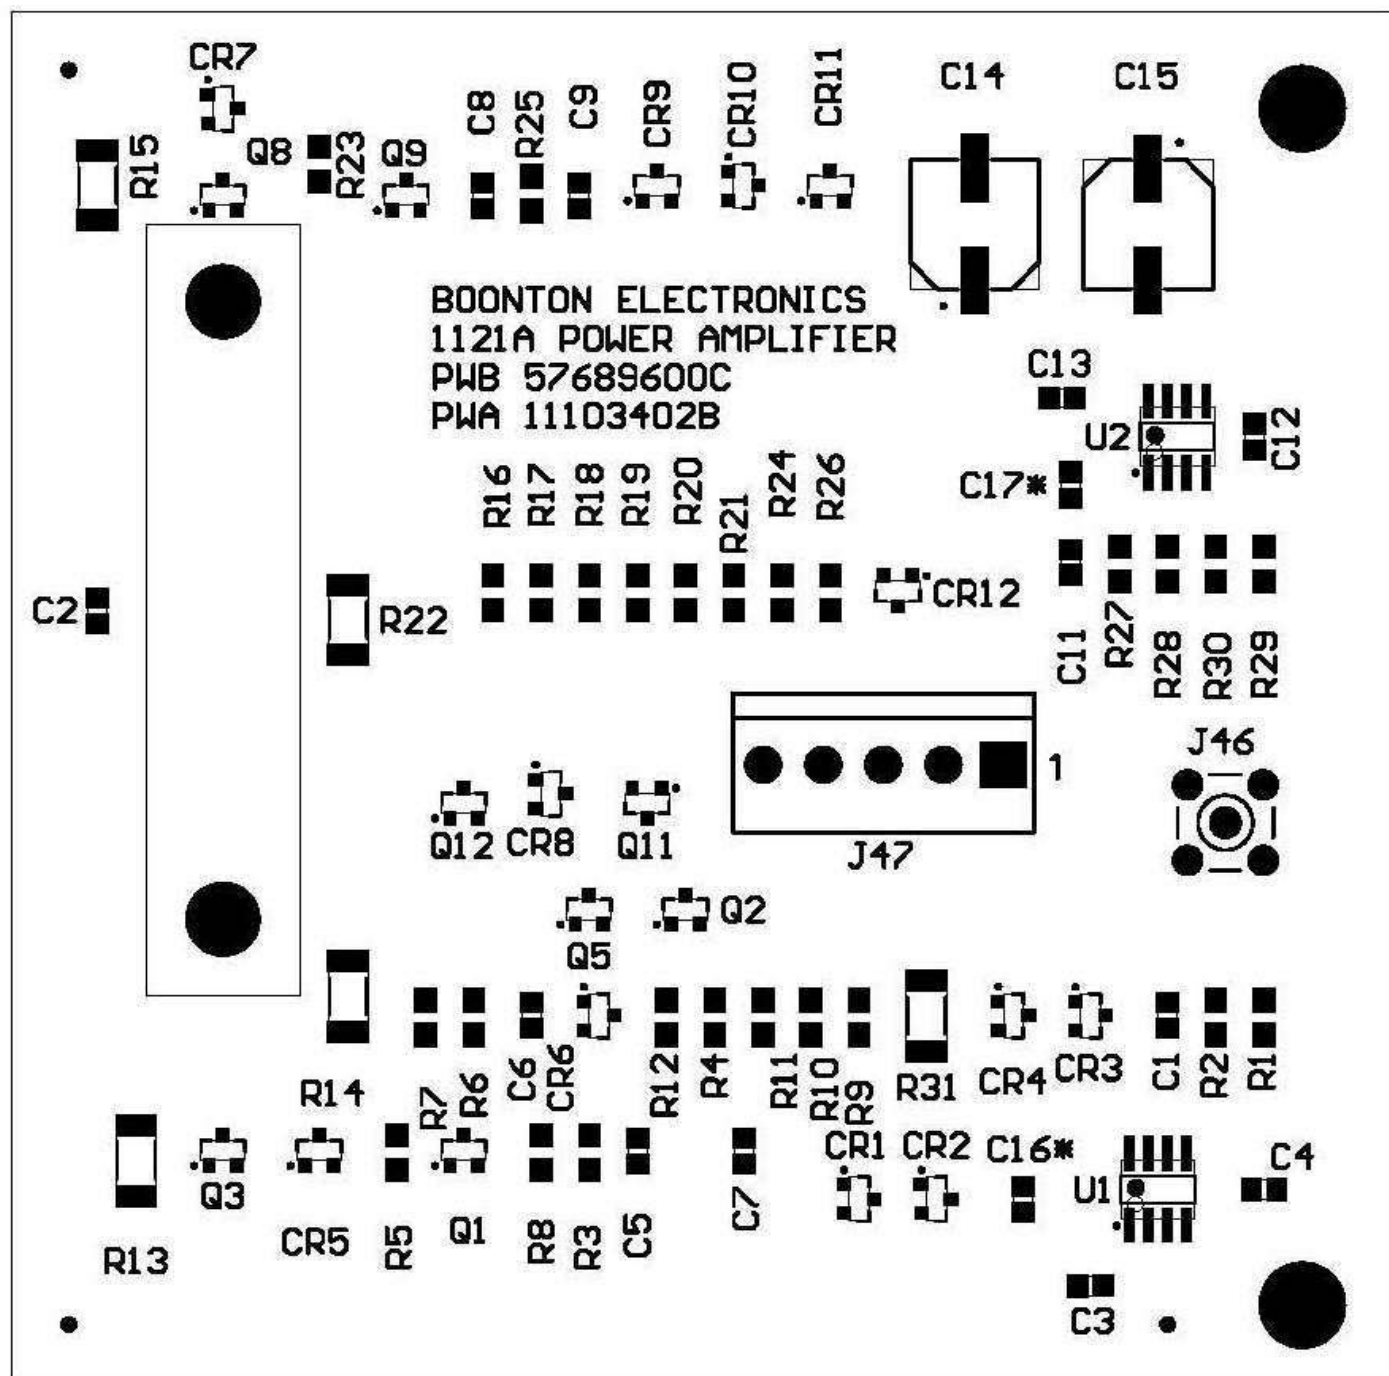

Figure 6-18. Power Amplifier (A24)
**11103402B REV A PWA POWER AMPLIFIER 1121A (A24) (Figure 6-18)**